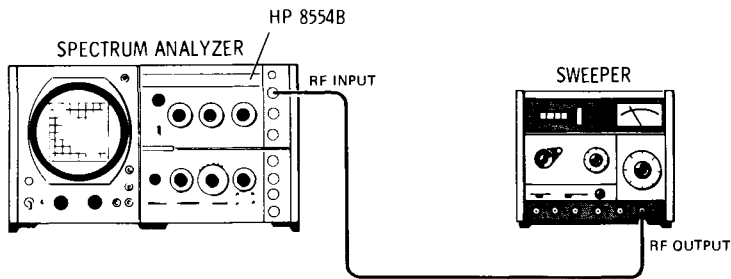

Figure 4-4. Frequency Response Test: 100 kHz to 100 MHz
- 6. To check the frequency response from 100 kHz to 100 MHz, connect the test shown in Figure 4-4. Make the following control settings: